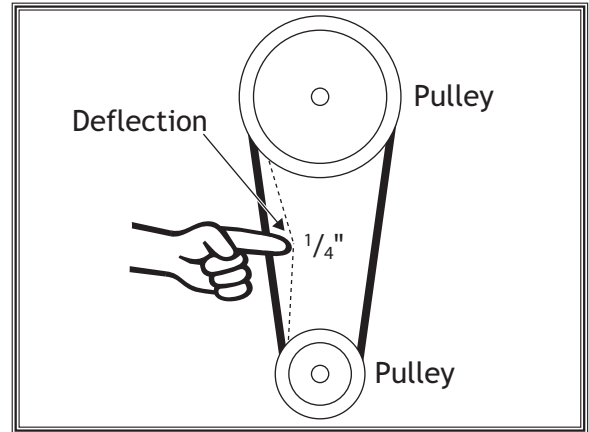

Figure 11. Measuring V-belt deflection.
- Position belt housing assembly so there is about $\frac{1}{4}$ " V-belt deflection when moderate pressure is applied to V-belt between pulleys (see **Figure 11**) then fully tighten cap screws from **Step 3** to secure belt housing assembly in place.